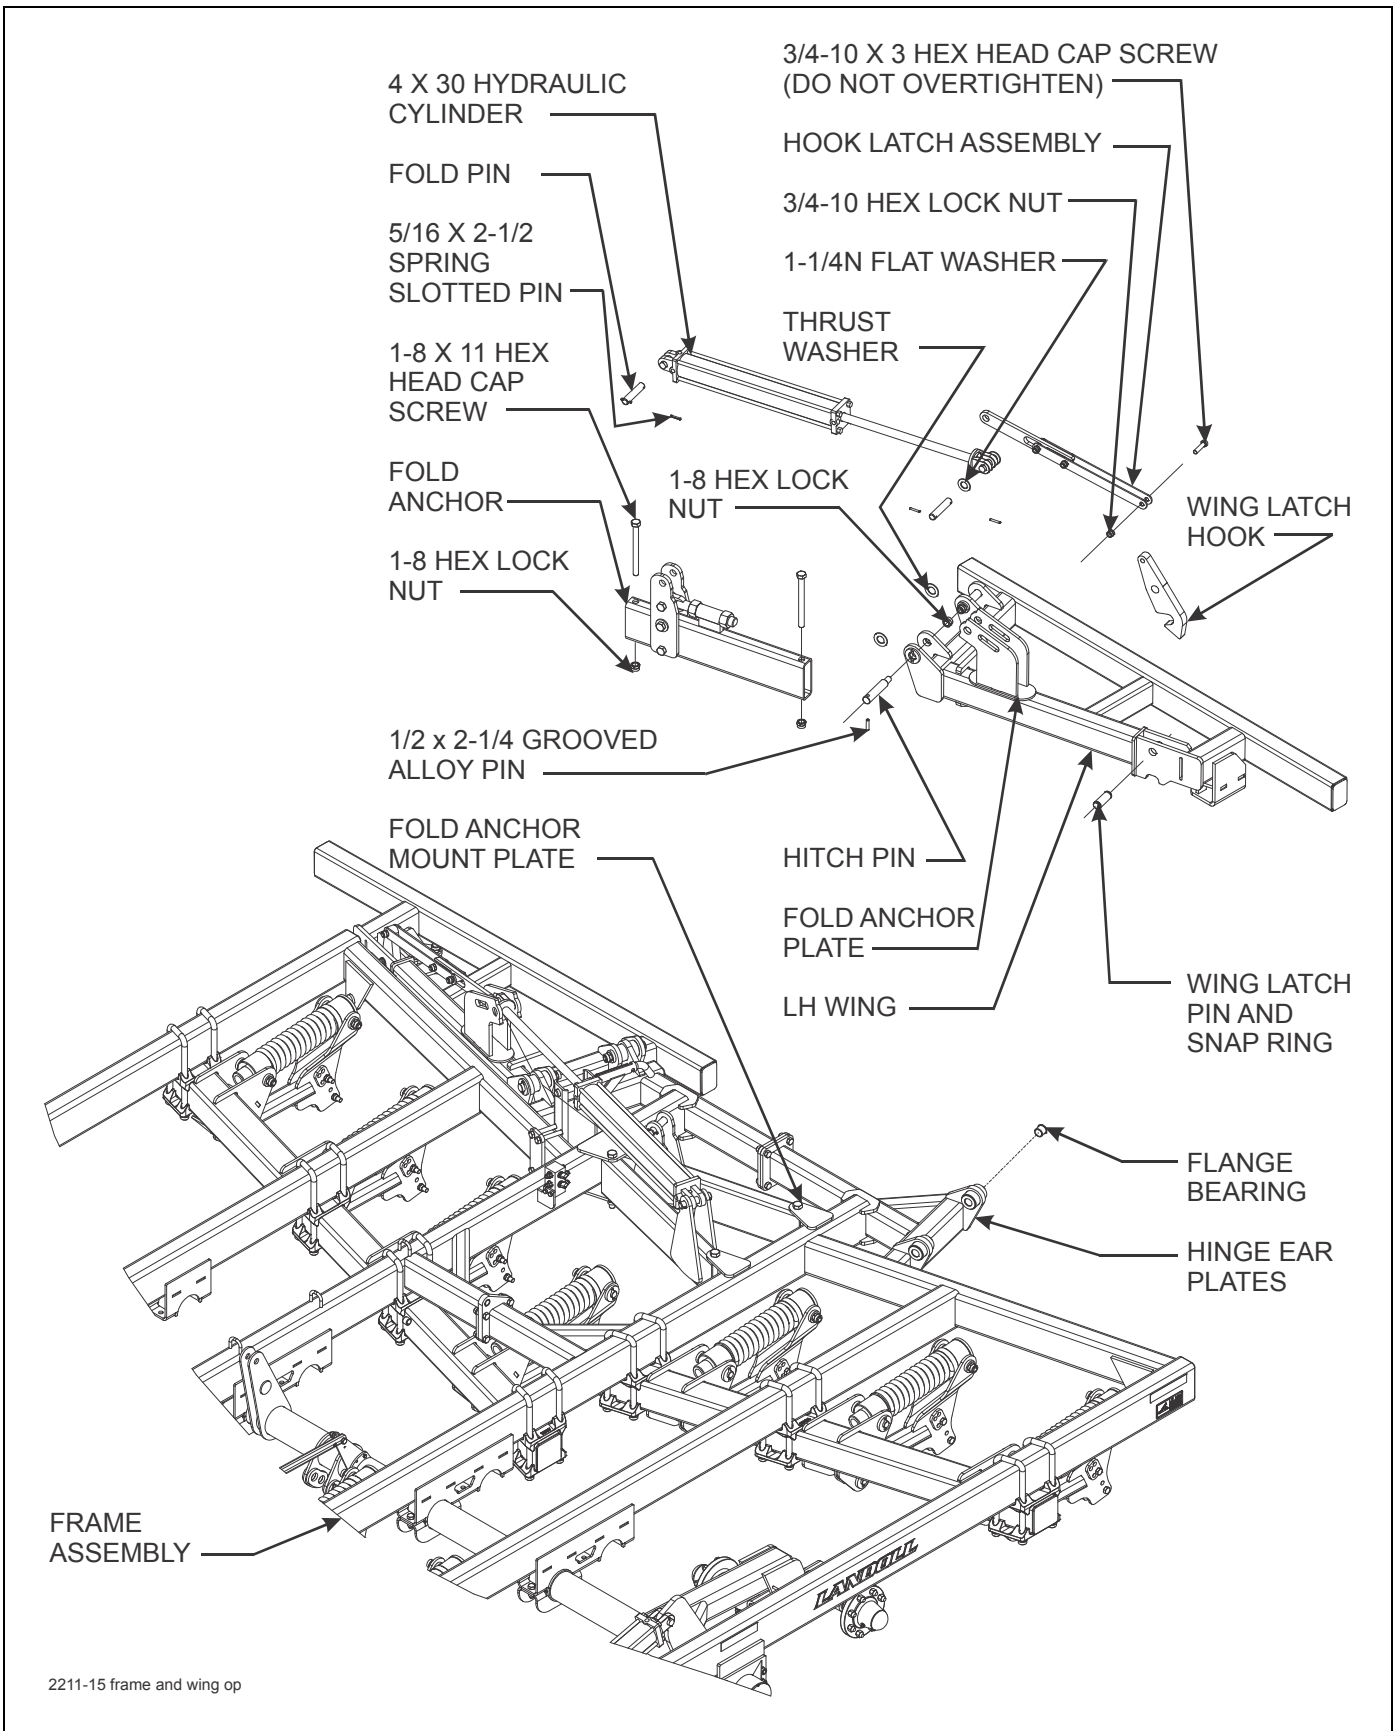

Figure 3-2: Wing Extension Installation (2211-13 & -15)
3. Assemble LH and RH wings to the hinge ear plates on the rear of the frame using hitch pins, 1/2 x 2-1/4 grooved alloy pins, thrust washer, and 1-8 hex lock nut (See Figure 3-2.)